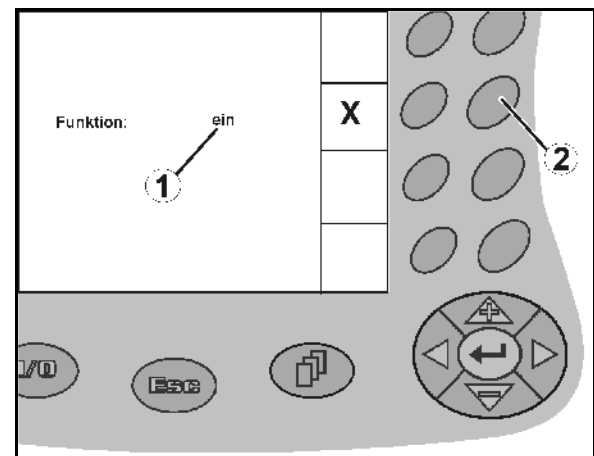

Fig. 14
- Press function key (Fig. 14/2) once
- Function **on** (Fig. 14/1).